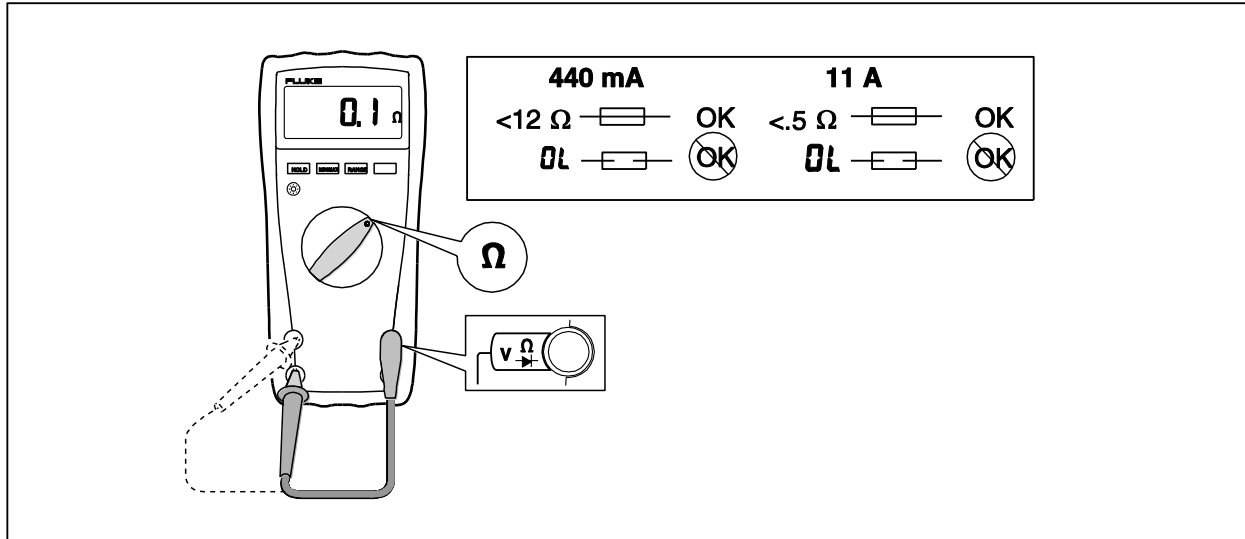

Figure 1. Test the Current Fuses
To test the fuses (see Figure 1):
- If the display shows a resistance value in the range shown in Figure 1, the fuse is good.